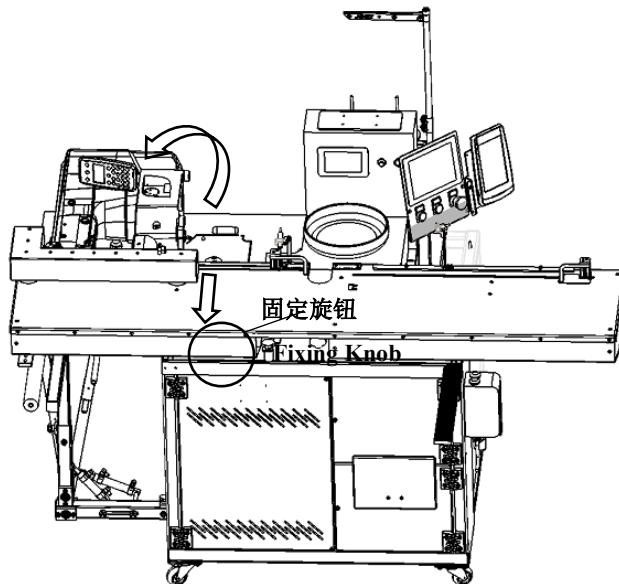

图 8.4 机头维修翻转图 Figure 8.4 Head repairing reverse drawing
- 旋松如图（图 8.4）所示部位的塑料固定旋钮，拉动缝台将整个移料部件移到最外面。
- Loosen the plastic fixing knob shown in FIG. 8.4 and pull the sewing table to move the whole material shifting part to the outermost part.